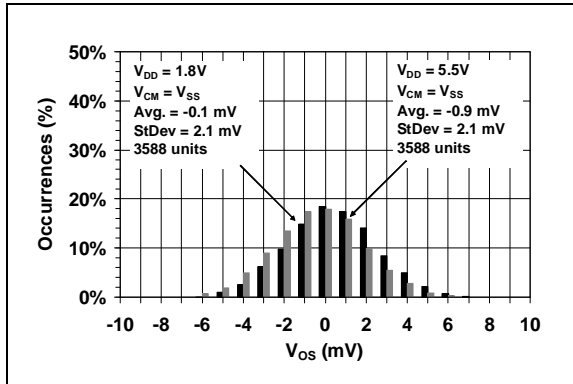

**FIGURE 1-1:** AC and DC Test Circuit for the Push-Pull Output Comparators.
**Electrical Characteristics:** Unless otherwise indicated:  $V_{DD} = +1.8V$  to  $+5.5V$ ,  $V_{SS} = \text{GND}$ ,  $T_A = +25^{\circ}\text{C}$ ,  $V_{IN+} = V_{DD}/2$ ,  $V_{IN-} = V_{SS}$ ,  $R_L = 10\text{ k}\Omega$  to  $V_{DD}/2$  (see Figure 1-1).
**Electrical Characteristics:** Unless otherwise indicated:  $V_{DD} = +1.8V$  to  $+5.5V$ ,  $V_{SS} = GND$ ,  $T_A = +25^{\circ}C$ ,  $V_{IN+} = V_{DD}/2$ ,  $V_{IN-} = V_{SS}$ ,  $R_L = 10\text{ k}\Omega$  to  $V_{DD}/2$ , and  $C_L = 25\text{ pF}$ . (see Figure 1-1).